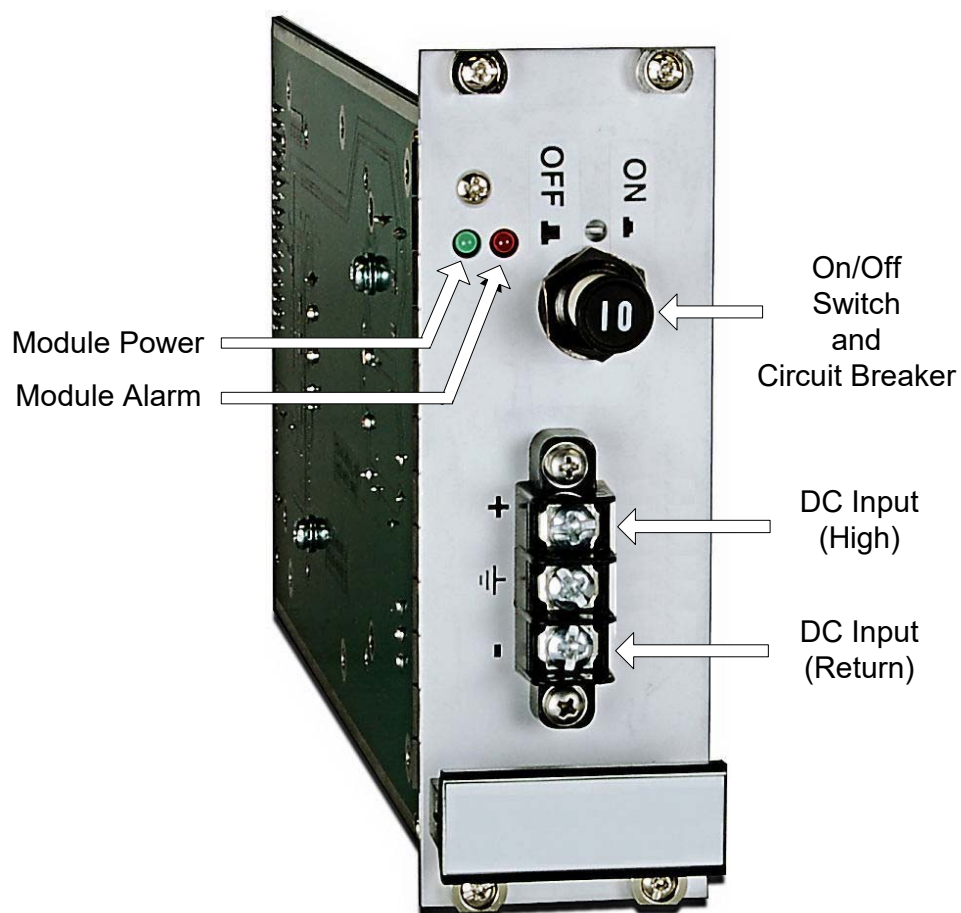

Figure 5-2 24 and 48 VDC Power Connections
- 24 VDC and 48 VDC inputs (refer to Figure 5-2 and paragraph 10.3).